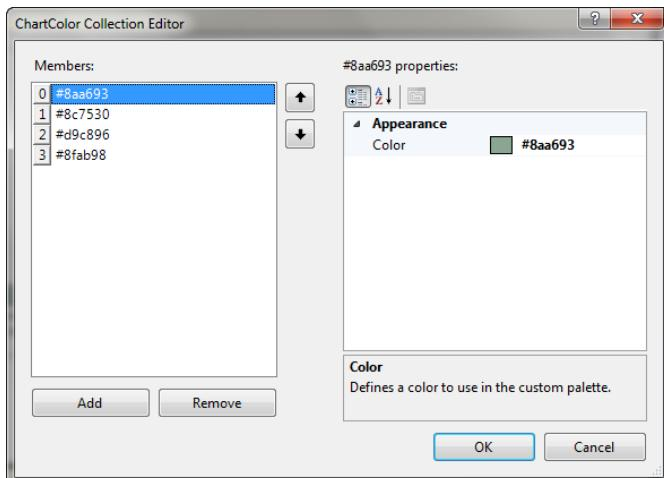

Figure 6-10
4. The editor functions by adding colors to the collection. Either select built-in system colors (shown in Figure 6-10) or enter a color Hex code.